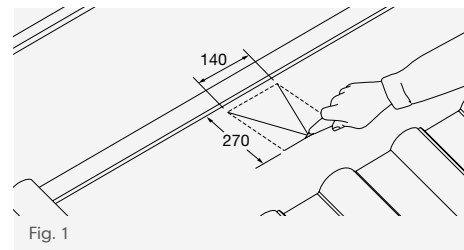

Fig. 1
- 3 Form a 'V' shaped cut in the underlay, 270mm long x 140mm wide – aligned with the centre line of the overall width of the tile below – to correspond with the position of the tile vent spigot (Fig. 1).